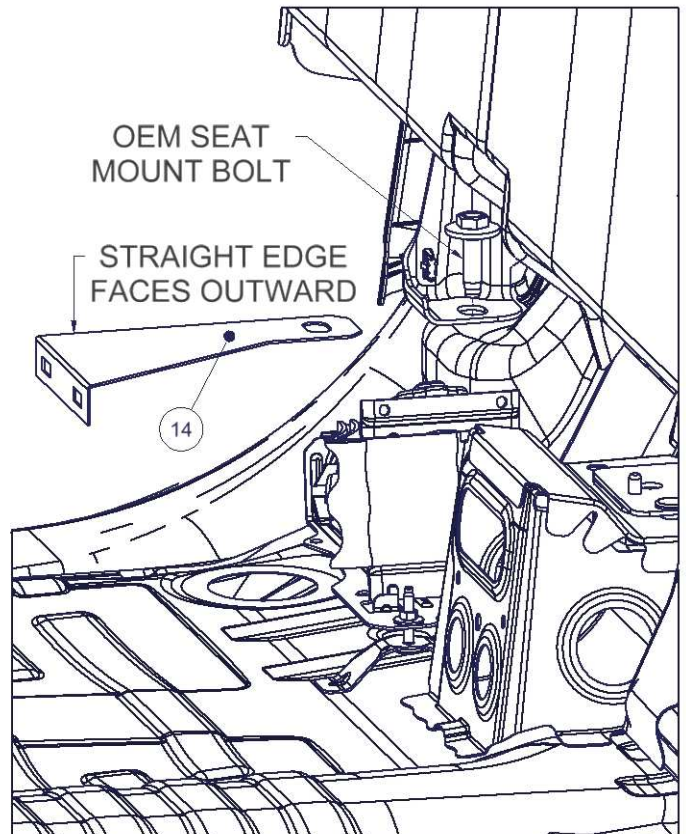

Figure 1
3. Starting on the Passenger (right) side, use the 18mm Socket to remove the OEM outer seat mount bolt (secures the seat to the floor). See **Figure 1**.